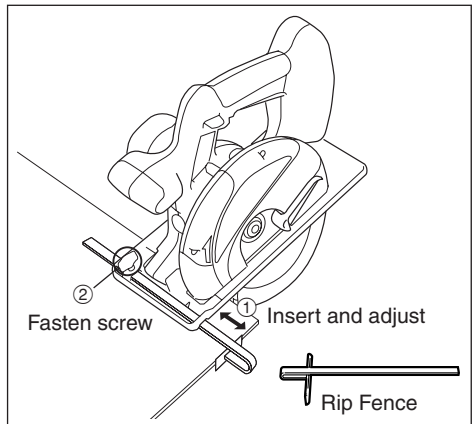

Fig. 6
- Insert rip fence and adjust cutting width. (See Fig.6)